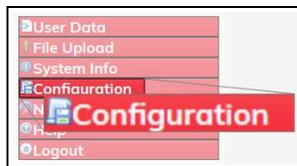

Figure 148: Configuration link
4. On the **Menu** list, click the **Configuration** link. Figure 148